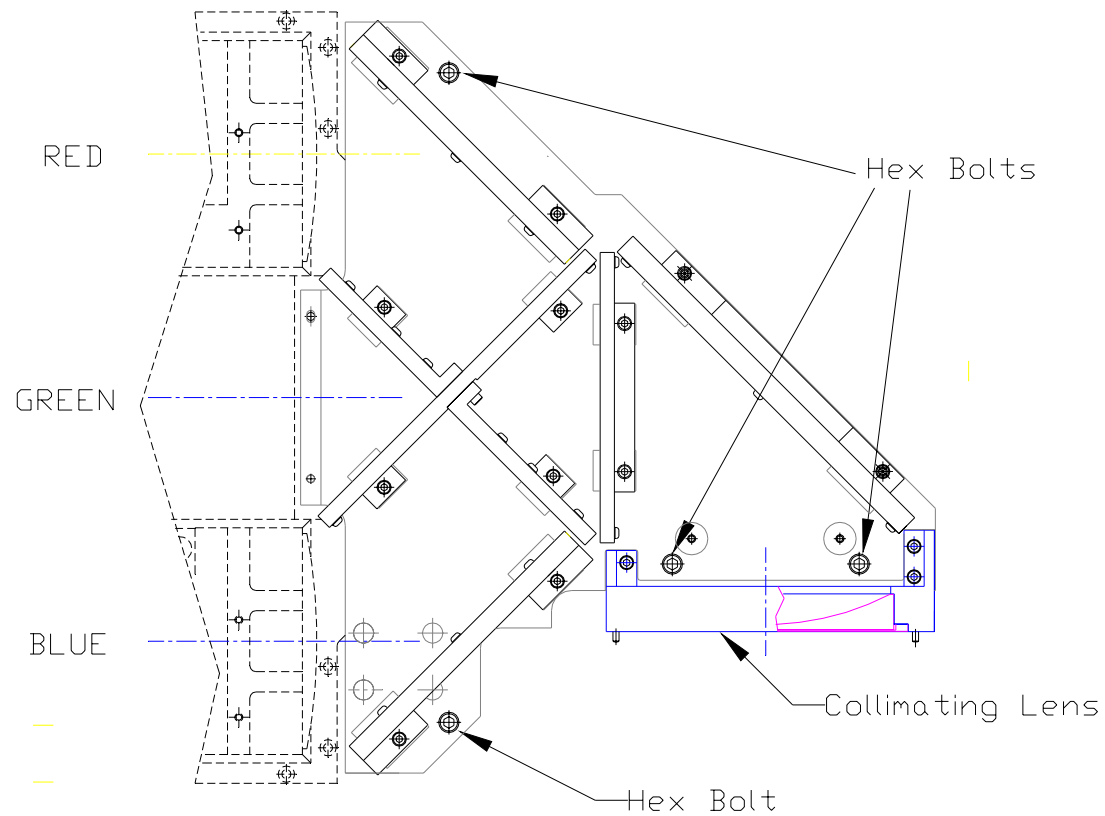

Figure 4-14. Dichroic Mirror Assembly.
7. Remove the X-Plate (Dichroic Mirrors) assembly by removing the four hex bolts securing it (see Figure 4-14). **CAUTION!** Use care when lifting the mirror assembly. Place it in a safe, level storage area.